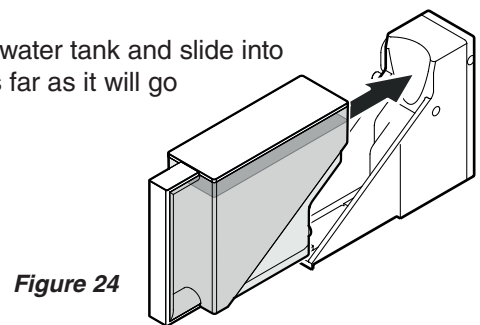

Figure 24
3. Reinsert the water tank and slide into the holder as far as it will go (Figure 24).